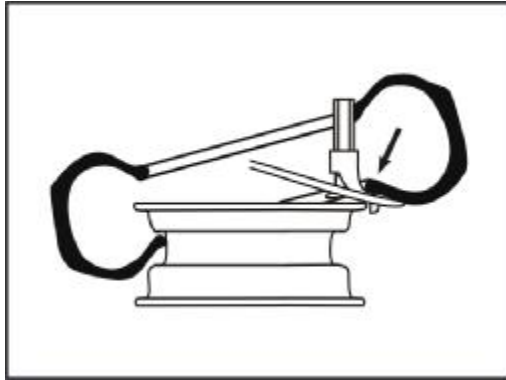

Fig.12
- I Lift the lower tyre bead so that the rim at the relative side enters the groove (fig.12), use tyre lever to lift the lower bead onto the mount/demount head.